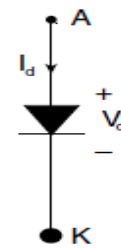
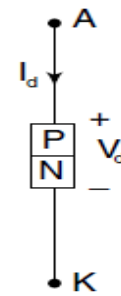

FIGURE 1.9 Diode symbol.
FIGURE 1.10 Diode structure.
Power diodes play an important role in power electronics circuits. They are mainly used as uncontrolled rectifiers to convert single-phase or three-phase AC voltage to DC. They are also used to provide a path for the current flow in inductive loads. Typical types of semiconductor materials used to construct diodes are silicon and germanium. Power diodes are usually constructed using silicon because silicon diodes can operate at higher current and at higher junction temperatures than germanium diodes. The symbol for a semiconductor diode is given in Fig. 1.9. The terminal voltage and current are represented as  $V_d$  and  $I_d$  respectively. Figure 1.10 shows the structure of a diode. It has an anode (A) terminal and a cathode (K) terminal. The diode is constructed by joining together two pieces of semiconductor material—a  $p$ -type and an  $n$ -type—to form a  $pn$ -junction. When the anode terminal is positive with respect to the cathode